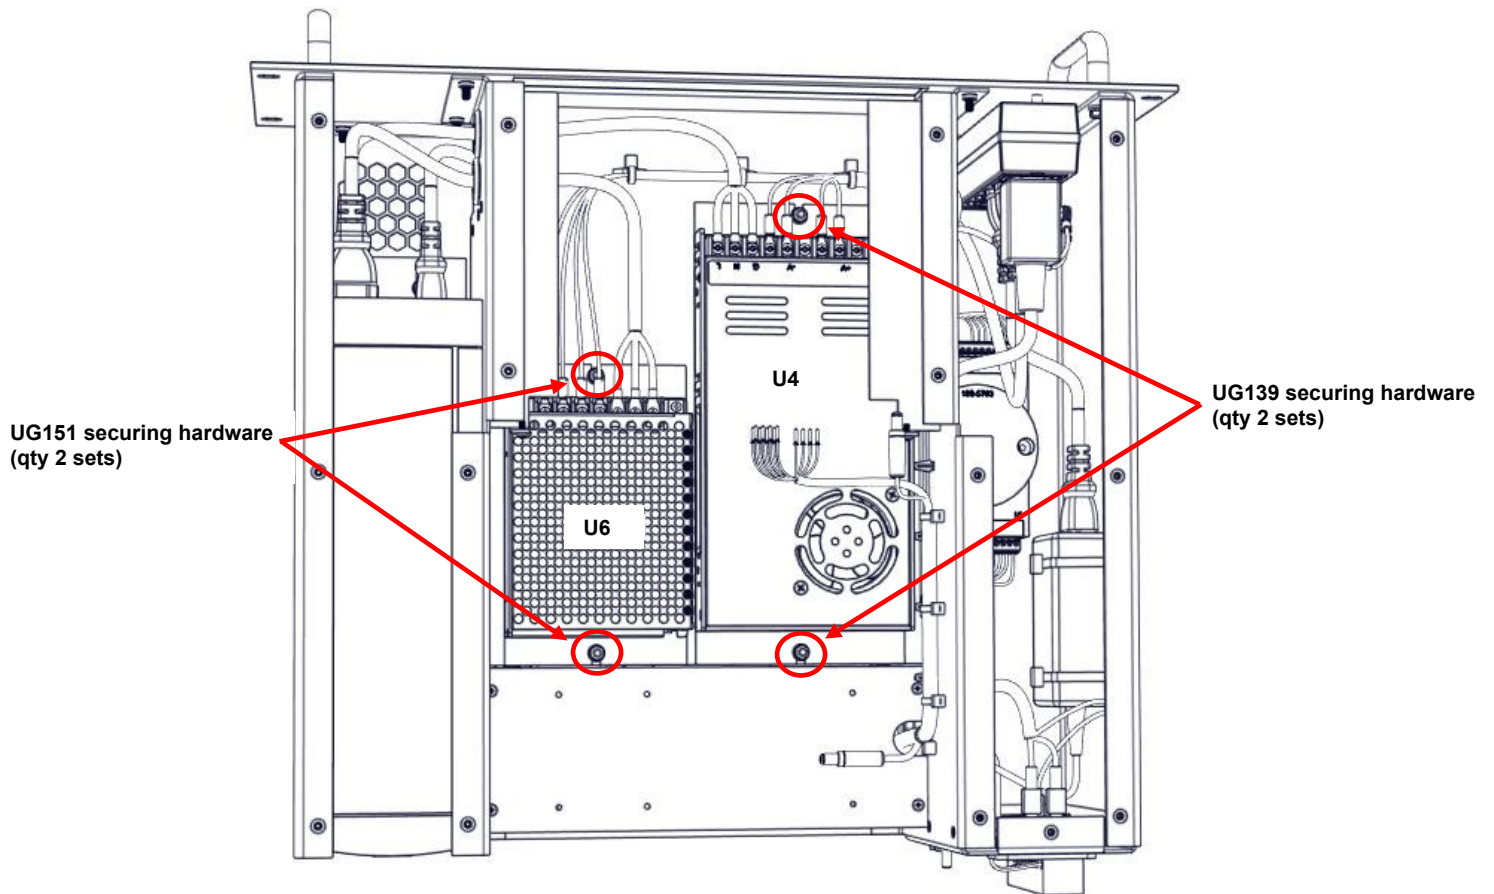

Figure 4-2: Power Supply Mounting Hardware
Refer to Figure 4-2 to locate the defective power supply. To replace the UG139 Power Supply (U4), perform the following steps:
- (g) Remove and retain the two (2) sets of M4 hardware securing the power supply to the chassis. See Figure 4-2.
Refer to Figure 4-2 to locate the defective power supply. To replace the UG151 Power Supply (U6), perform the following steps:
- (i) From the underside of the bracket, remove and retain the two (2) M3 screws securing the power supply to the mounting bracket. Discard power supply.